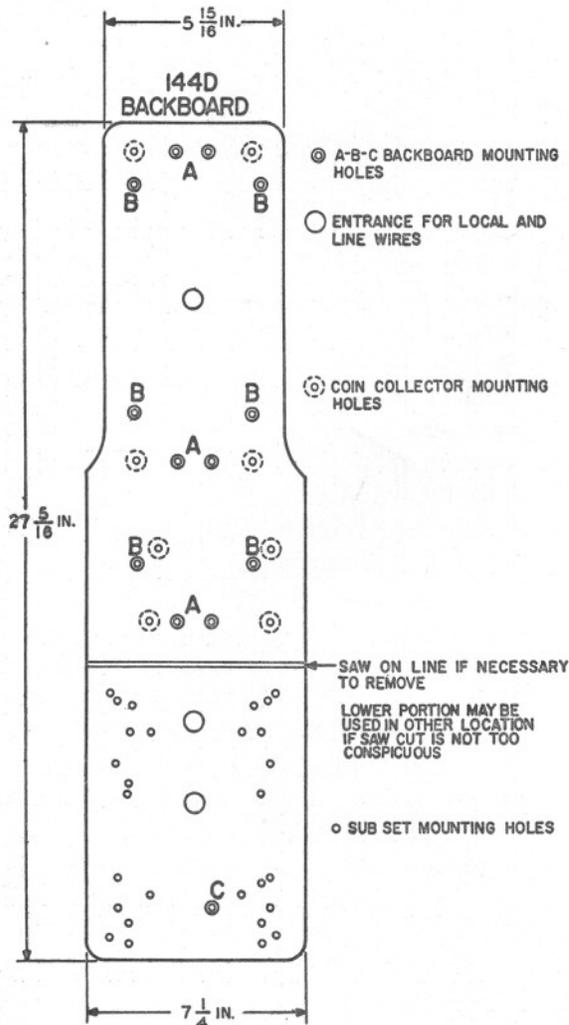

Fig. 2 — 144D Backboard
4.07 The 144D and 174A backboards are designed for mounting coin collectors on vertical surfaces. Backboard mounting holes identified by letters are shown in Fig. 2 and 3.